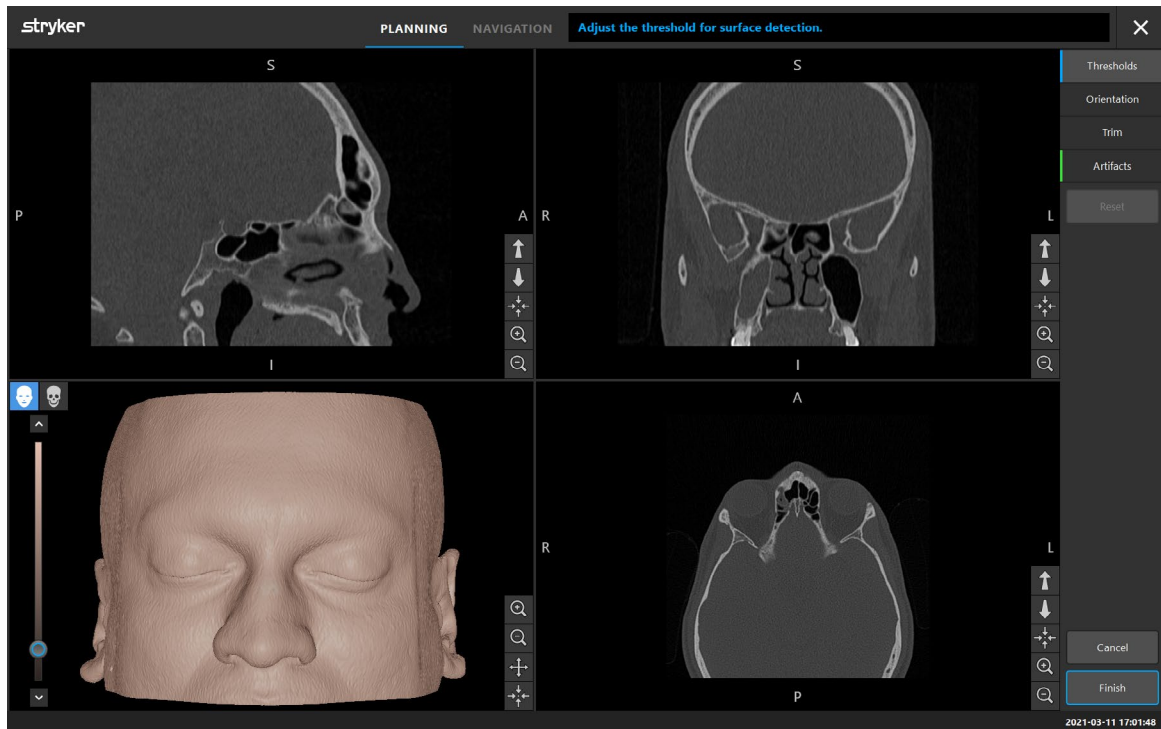

Figure 40 Image optimization dialog at startup
As an intermediate step in importing patient data, an automatic visualization optimization of the image data are carried out. A dialog with four windows showing the patient image data as 2D slice images (axial, sagittal, and coronal) and as a 3D model is displayed during import (Figure 40). In this dialog, you can review automatic image optimization results and adjust the image data to further improve its quality. If the data shows a realistic, correctly oriented (face towards user) and complete representation of the patient, the import can be completed directly via *Finish* without any adjustments.
- *Threshold*: If the skin of the 3D patient model appears incomplete or rough, use the skin and bone sliders of the *Threshold* tab (pre-selected at dialog start-up) to correct the *Thresholds* (Figure 40).
- *Orientation*: The head of the patient must be shown facing forward. Deviations from the ideal orientation can be corrected in the *Orientation* tab (Figure 40).
- *Trim*: If only a section of the image data is relevant for the procedure, or if a sizable amount of the image data consists of empty space, unnecessary parts of the volume can be removed with the help of the *Trim* tab (Figure 40).
- *Artifacts*: The head of the patient should not be occluded by eye protection, *CBCT* artifacts or parts of a headrest. If artifacts are visible, they can be removed with the help of the *Artifacts* tab (Figure 40).